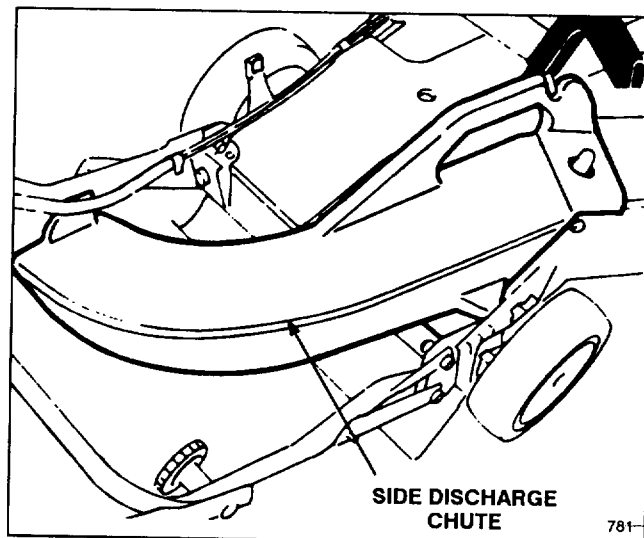

Figure 27
1. **Side Discharge Kit, Model No. 59168**—Install in seconds. Rear mounted in place of the grass bag. Disperses clippings while trimming on both sides (Fig. 27).